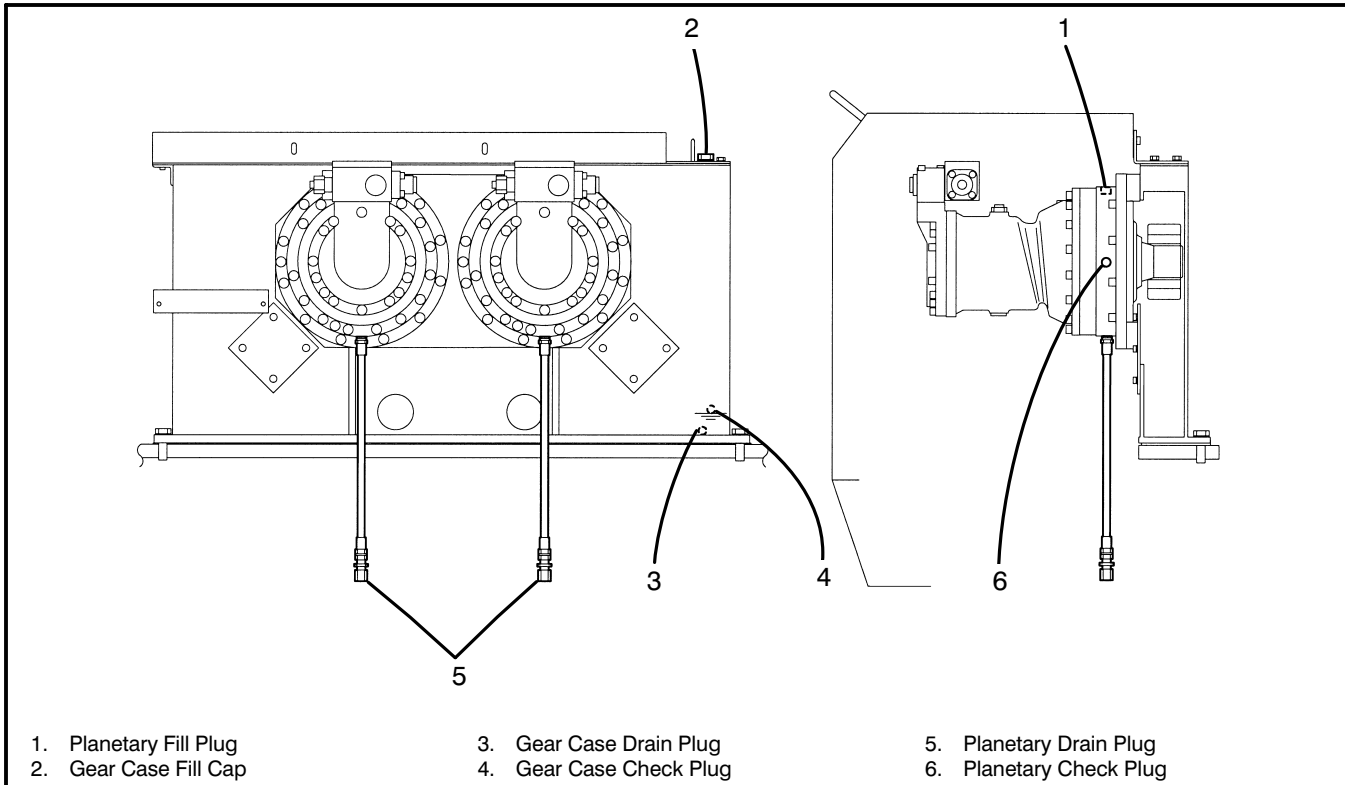

Figure 2-11
3. Thoroughly clean the exterior surface of the gear case and around the check plug and fill cap to prevent contamination from entering the unit. Refer to Figure 2-11.